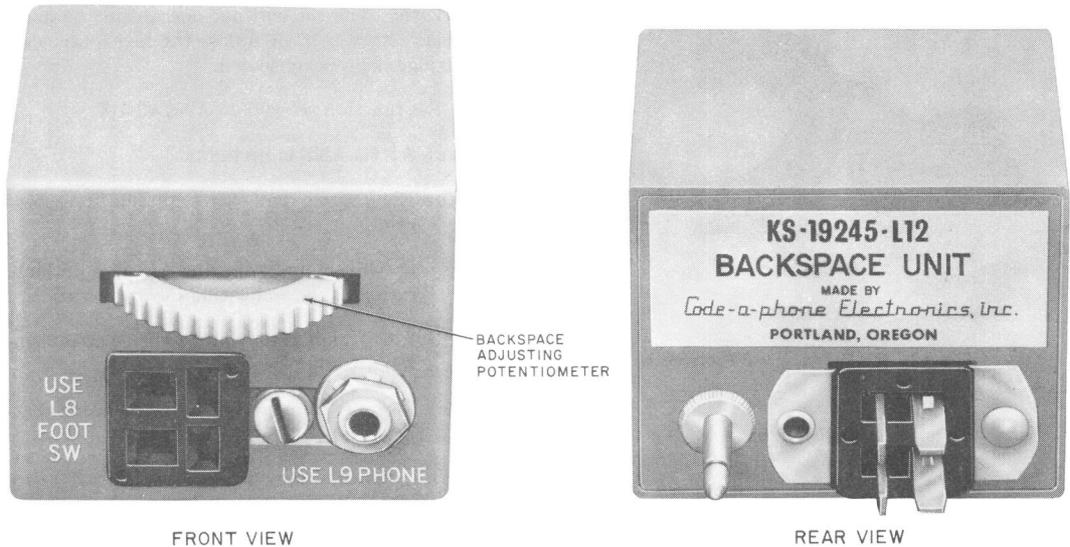

Fig. 19—KS-19245, List 12 Backspace Unit
- (c) **The KS-19245, List 12 Backspace Unit** (Fig. 19), allows automatic backspacing of the message tape a few words each time the playback activated control on the foot switch pedal is released. The user can control the amount of backspace (up to approximately 12 words) by adjusting the backspace control. Automatic
4.17 Backspace Unit KS-19245, List 12 (Fig. 19): Perform the following.